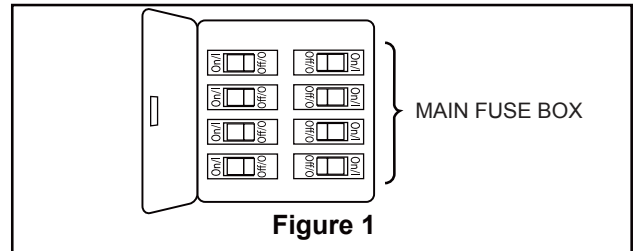
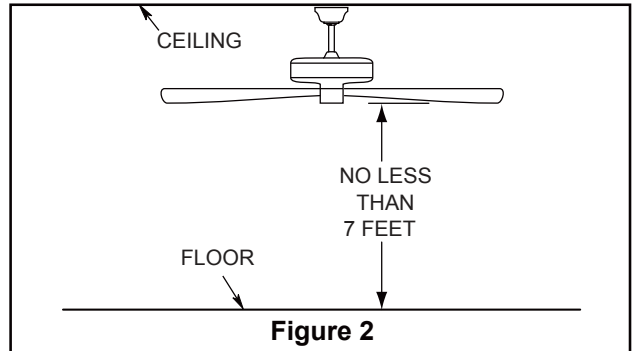
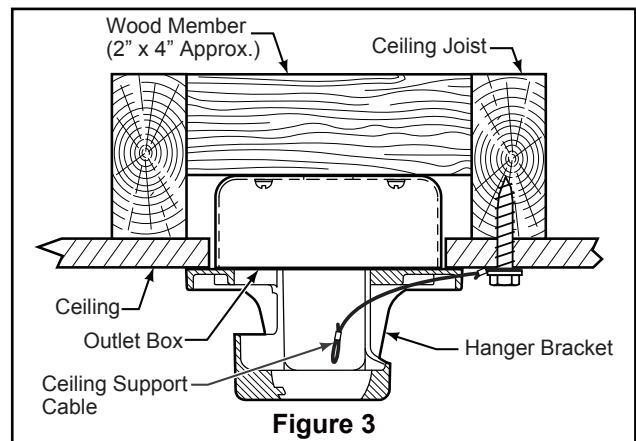

Figure 1
Figure 2
Figure 3
Your new ceiling fan will require a grounded electrical supply line of 120 volts AC, 60 HZ, 15 Amp Circuit. Electrical code requires use of a fan-rated outlet box to support the extra weight and motion associated with a ceiling fan. A fan-rated box will be labeled as such and typically supports up to a 70lb ceiling fan. Fan-Rated Outlet Boxes vary in ratings and design. Ensure the ratings of your ceiling fan outlet box meet the requirements for the ceiling fan being installed. Figure 1, Figure 2 and Figure 3 depicts different structural configurations that may be used for mounting the outlet box.
Low profile usage diagram idea (Figure 1)
Deeper profile usage diagram idea (Figure 2)
Brace use (Figure 3)
1. Cut off excess lead wire approximately 6 to 9 inches above top of the downrod. Strip 1/2 inch from the end of each lead insulation off wire. (Figure 1)
2. Remove one of the two shoulder screws in the hanger bracket and retain the screw for later. Loosen the second shoulder screw without fully removing it. (Figure 2)
To avoid possible fire or shock, be sure electricity is turned off at the main fuse box before hanging. (Figure 1)
The fan must be hung with at least 7' of clearance from floor to blades. (Figure 2)
1. Securely attach the hanger bracket to the outlet box using the outlet box screws and washers supplied with the outlet box. (Figure 3)
2. Drill a 1/4" pilot hole into the building structure to prevent splitting or cracking with installation of the lag bolt. Using the 3/8" x 2" lag bolt and flat washer, attach safety cable to ceiling joist or wood structural member. The lag bolt will pass through the flat washer, safety cable loop, and into the building structure. (Figure 3)
NOTE: Ceiling support cable cannot be secured to outlet box only, it must be directly secured to ceiling joist or structural member using the 3/8" x 2" lag bolt and flat washer. (Figure 3)
1. To set the code on receiver unit, slide dip switches to the same positions as set on the remote. (Figure 1)
To avoid possible electrical shock, be sure electricity is turned off at the main fuse box before wiring. (Figure 2)
2. Slide the receiver into the hanger bracket before wiring as shown in figure 3.
- 1. Assemble canopy by rotating key slot in ceiling canopy over shoulder screw in hanger bracket, taking care not to pinch the wires. Tighten shoulder screws. Fully assemble and tighten second shoulder screw that was previously removed. (Figure 1)
- 2. Securely attach and tighten the canopy screw cover over the shoulder screws in the hanger bracket utilizing the keyslot twist-lock feature. (Figure 2)
- 1. Position blades over the threaded posts secure with the 3/16"-24 washer head screws and fiber washers. (Figure 1)
- 1. Remove one of the three screws in the support bracket at the bottom of the motor assembly and retain the screw for later. Slightly loosen the remaining two screws. (Figure 1)
- 2. Assemble the light plate assembly to the motor assembly support bracket using the two key slots in the light plate assembly. Replace the previously removed screw and securely tighten all three screws. (Figure 2)
- 3. Remove one of the three screws in the light plate assembly and retain the screw for later. Slightly loosen the remaining two screws. (Figure 3)
- 1. IMPORTANT:** Using a full range dimmer switch (not included) to control fan speed will damage the fan. To reduce the risk of fire or electrical shock, do not use a full range dimmer switch to control the fan speed. (Figure 1)
- 2.** Restore electrical power to the outlet box by turning the electricity on at the main fuse box. (Figure 2)
- 3.** To make fan operational, install 23A/12V battery (included) in hand-held remote transmitter, with fan power off. Then follow the remote code setting process. (If not used for long periods of time, remove battery to prevent damage to transmitter). Store the remote away from excessive heat or humidity. (Figure 3)